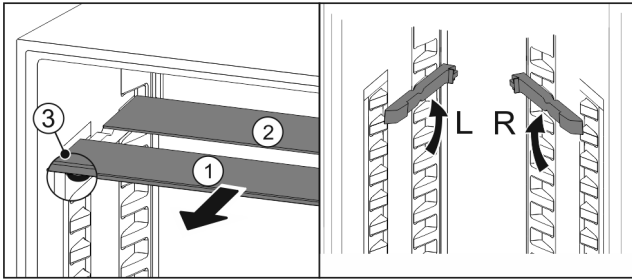

Fig. 83
- ▶ Pull the glass panels out Fig. 83 (1) from the front, one at a time.
- ▷ The glass panel Fig. 83 (1) and trim strip are at the front.
- ▷ The stops Fig. 83 (3) point down.